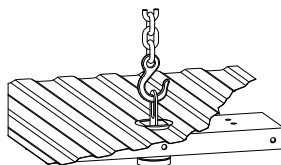

Figure A1.
4. **Prepare a lifting device.** The purpose of the device is to safely hold the hitch in position during part of the installation. See Figure A1 for an example. A simple mechanical lifting device is available for purchase from B&W.